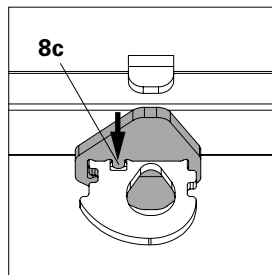

Fig. A2.12e
3. Insert locking finger (**8c**) into the hole. (Fig. A2.12e + A2.12f)